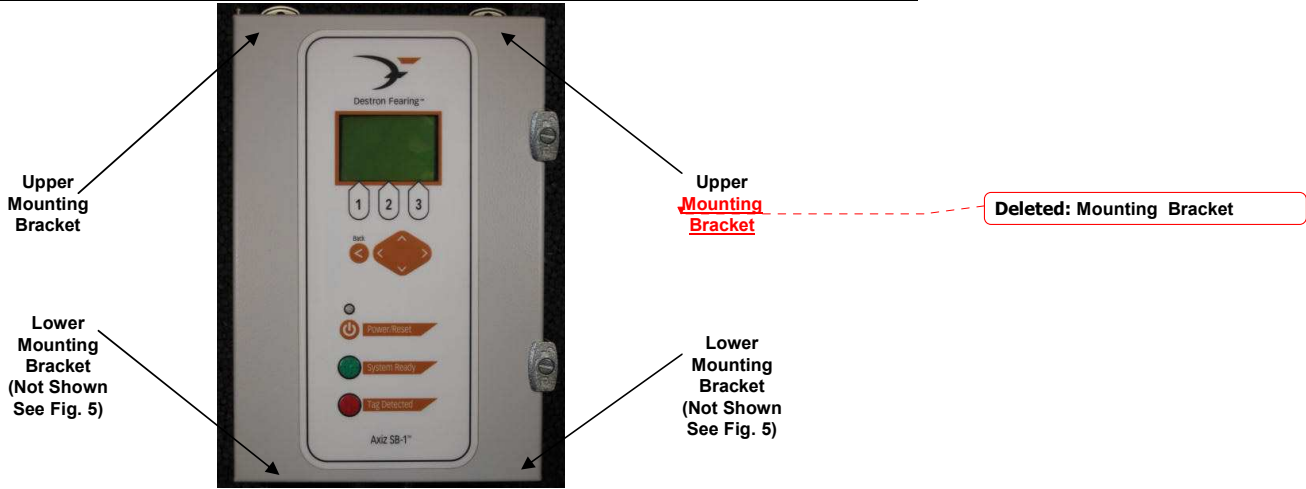

FIG. 4: Mounting Brackets
3. Locate area to mount the Reader. Locate the four mounting brackets on each corner of the Reader. See Fig. 4 and 5. The Reader should be mounted on a vertical surface within 12 feet of a grounded power source. **NOTE: The power cord is 12 ft. long.**